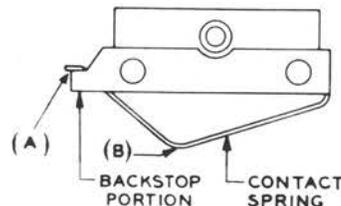

Fig. 42—Contact Spring Position
The ends of the contact spring tines shall project beyond the edge of the backstop portion [Fig. 42, (A)] of the spring assembly. Gauge by eye. To check the requirement, proceed as follows.
- (1) Place the manual control handle on the stub shaft.
- (2) Manually operate the LCH armature.
- (3) Rotate the handle clockwise.
- (4) Release the LCH armature.
- (5) Continue to rotate the handle until a pair of contact spring assemblies is free of the card channel.
**Tension:** The tension of each contact spring tine against the backstop portion [Fig. 42, (B)] of the spring assembly shall be
- (5) Continue to rotate the handle until a pair of contact spring assemblies is about to enter the chain guide channel.
- (6) Apply the gauge at (B) of Fig. 42, and check the end of the tine at (A) as it leaves the backstop portion of the spring assembly.